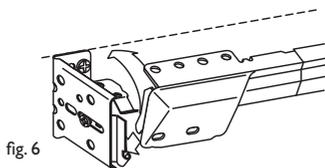

fig. 6
1. Once the brackets are securely fixed, insert one end of the curtain track 'projection' lug into the receiving channel of the end bracket and push the front of the track to click-close it in position (Fig. 6).